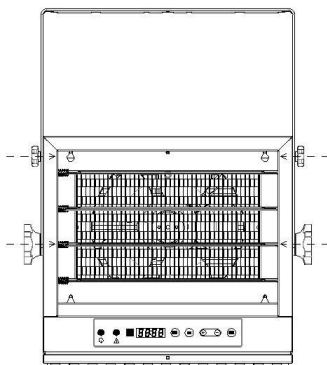

Figure 9C
3. Attach the bracket on the heater, making sure it is securely fastened. (Figure 9C)